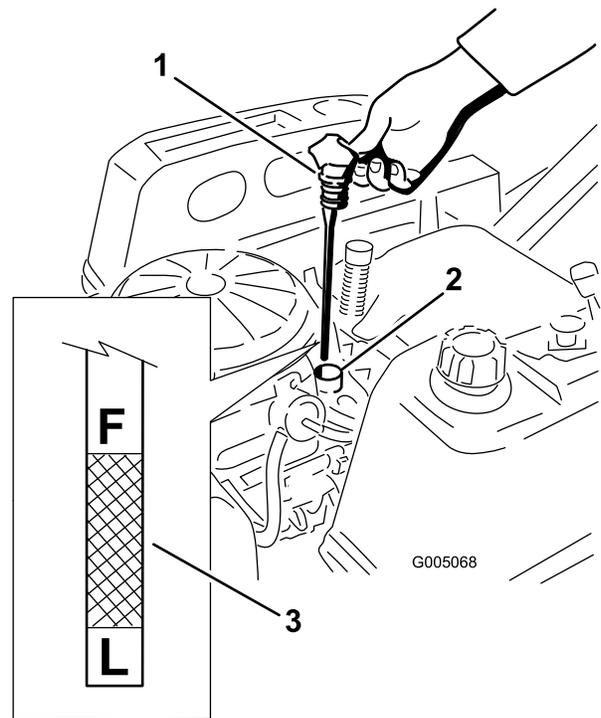
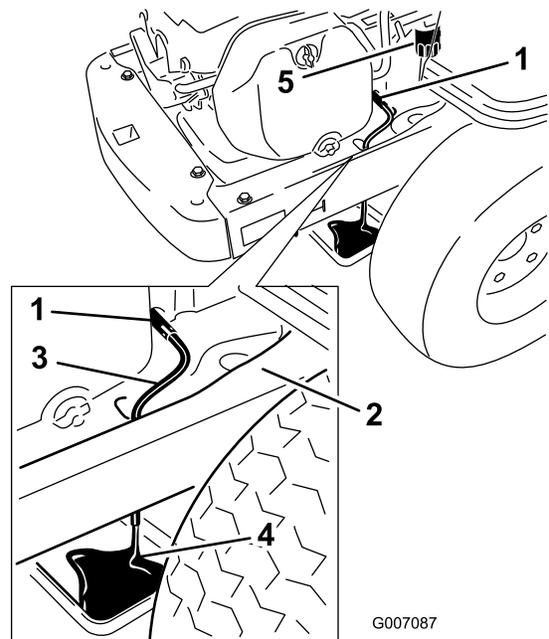

Figure 27
Figure 29
- Remove the dipstick and check the oil level. (Figure 27).
- Pull and remove the oil fill cap/dipstick; wipe oil off. Reinsert the dipstick and push firmly into place (Figure 27).
7. Place a pan underneath machine directly below the drain hole in the frame as shown in Figure 29.
8. Turn the drain valve 1/4 counter clockwise to open and allow the oil to drain (Figure 29). Remove the oil fill cap/dipstick (Figure 27).
10. Remove the old filter and wipe off the mounting pad (Figure 29).
11. When oil has drained completely, close the oil drain valve. Remove the oil drain hose and wipe up any excess oil on the frame (Figure 29).
15. Slowly pour approximately 80% of the specified oil into the filler tube (Figure 27).
16. Install the oil fill cap/dipstick and push firmly into place (Figure 27).
17. Check the oil level (Figure 27); refer to Checking the Oil Level.
19. Install the oil fill cap/dipstick and push firmly into place (Figure 27).